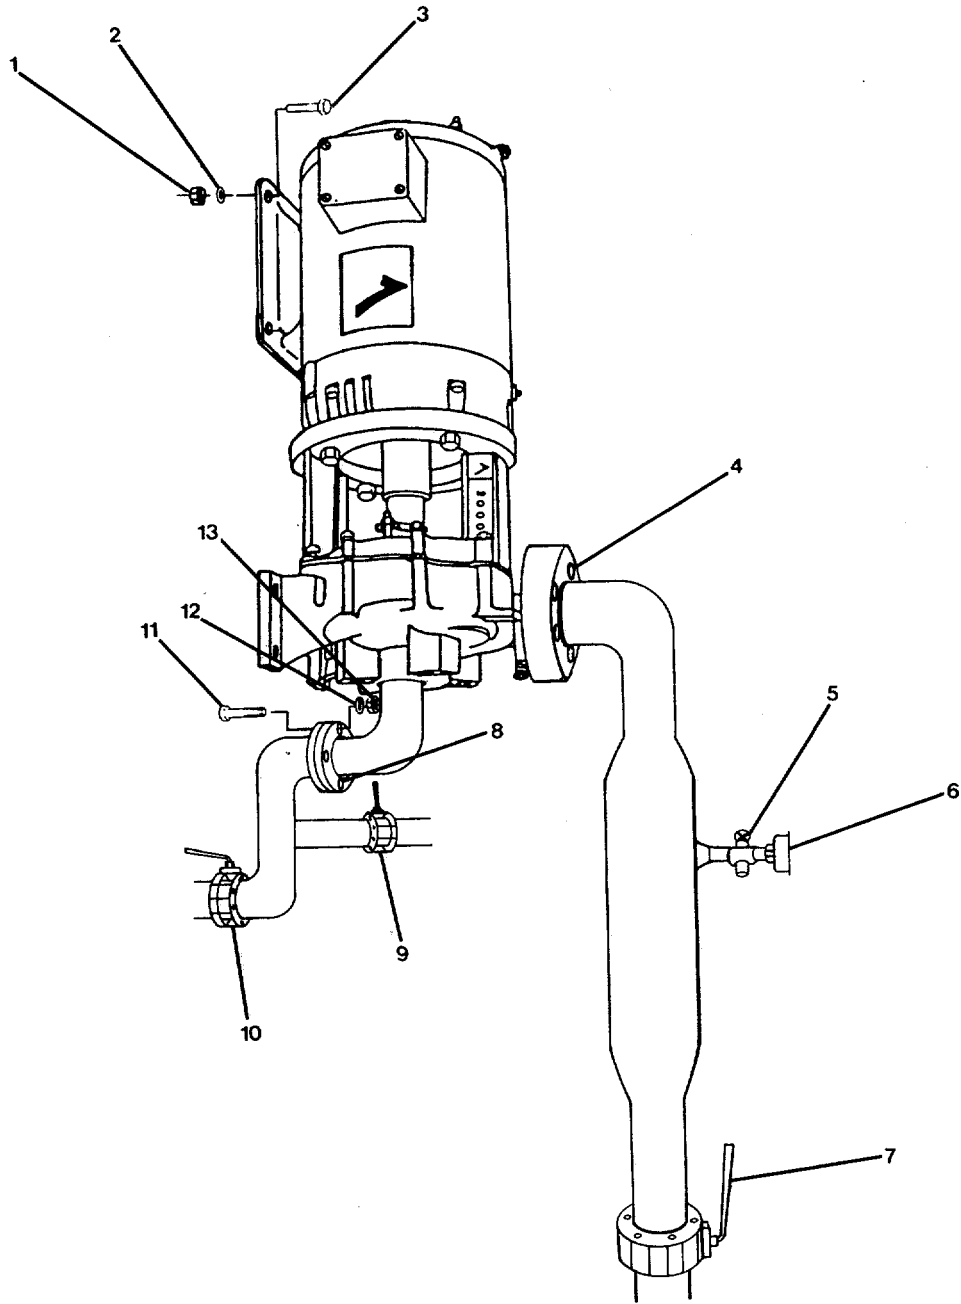

FIGURE 2-2. Centrifugal Pump and Local Piping.
- a. Check for loose or missing mounting bolts (3, FIGURE 2-2).
- (1) Close pump suction valves (9 and 10) and discharge valve (7).
- (2) Separate suction piping flange (8) by removing (11, 12, and 13) and observe piping to see if it springs away from pump, indicating misalignment.
- (3) Disconnect discharge piping flange (4), remove mounting hardware and observe to see if piping springs away from pump, indicating misalignment.
- (4) Connect suction and discharge piping by replacing mounting hardware.
- (5) Open suction and discharge valves.